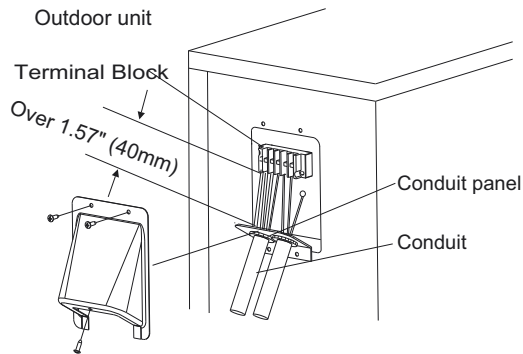

Fig. 13 – Field Wiring
5. Connect the conduit to conduit panel (see Fig.13).